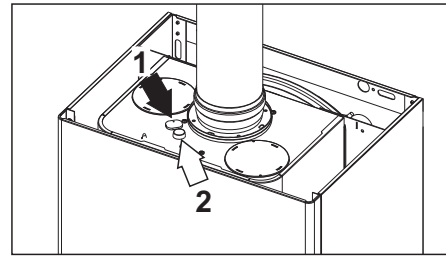

fig. 29 - Fume analysis DIVATop MICRO F 24
Two test points are provided at the top of the boiler, one for fumes (ref. 1 - fig. 29) and the other for air (ref. 2 - fig. 29). To take samples: